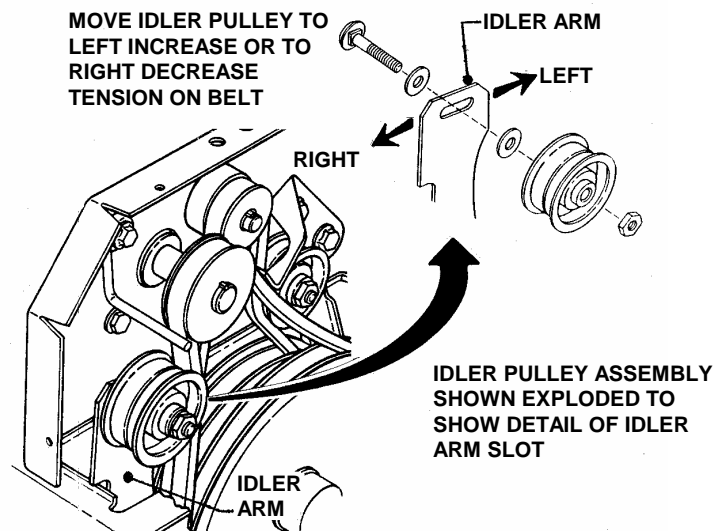

FIGURE 4.3
3. Loosen nut and bolt that secures the idler pulley. Move idler pulley toward belt for more tension or away from belt for less tension. See Figure 4.3. Retighten bolt and nut securely.